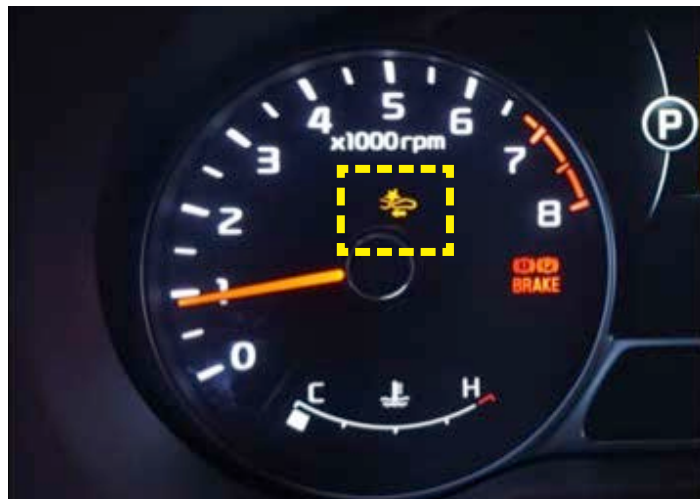

Fig. 1. The FCW warning indicator
On some 2016MY Soul (PS) vehicles, you may see a Forward Collision Warning (FCW) indicator may appear on the instrument cluster with no DTC's present (Fig. 1). This condition may be caused by incorrect/lost variant coding of the Lane Departure Warning System (LDWS) camera, or when replacing with a new camera. Follow the procedure outlined below to resolve the concern.